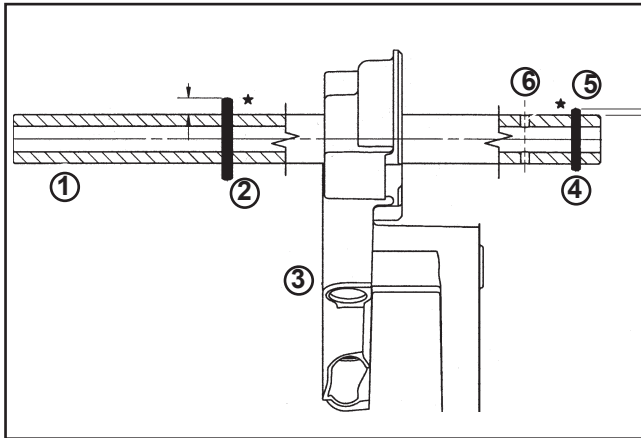

Figure 10-6. Assembled Intake Cam Shaft Details.
2. If it was removed, install and center the longer, **3 mm** diameter drive pin into the **upper** hole (See Figure 10-6).